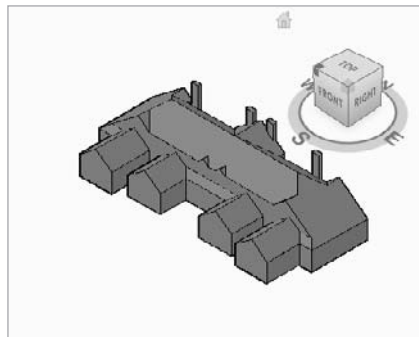

Figure 2.19
5. Place the block somewhere within Lot 7, and then place another Colonial 01 in Lot 6. If you pick the block just placed, you can right-click and select Object Viewer. Tilted into an isometric view as in Figure 2.19, these blocks gain height and design features, hence the name *multiview* blocks.